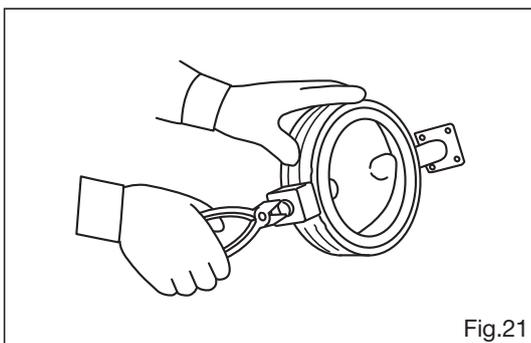

Fig.21
Use the hexagonal bolt ⑬ which fixed the cover. Screw the hexagonal bolt into the thread of the lower shaft ⑤, then pull the hexagonal bolt ⑬, so the lower shaft ⑤ comes out with the hexagonal bolt ⑬. (Fig.21)